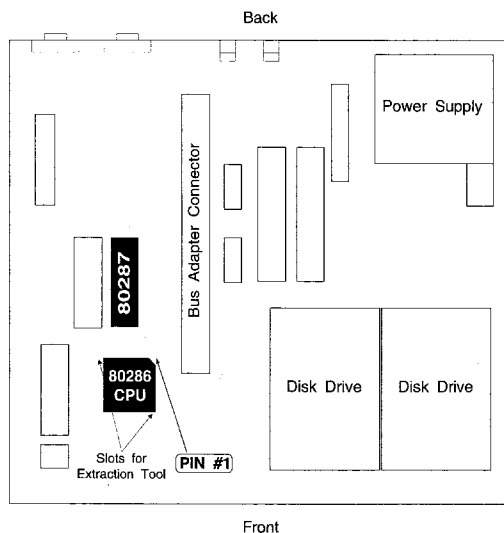

Figure 4. IBM PS/2 Model 30-286 System Board
**Note:** The position of pin 1 on the 80286 processor chip will determine **exactly** how the 486SLC2 Cached Processor Upgrade Card will be installed. The location of pin 1 shown in figure 4 is correct for the motherboards we have worked with in developing the card. It is possible that alternative motherboard designs or engineering levels exist and the location of pin 1 on your motherboard is definitive.
10. Insert the metal prongs of the IC chip removal tool in the space between the processor and its socket. Insert the prongs in the slots located diagonally opposite each other and 90 degrees either side of pin 1 (see figure 4). Gently squeeze the plastic handles until the tip near the metal prongs seats on the processor socket. Without rocking or lifting up on the tool, gently increase the force on the handles until the prongs lift the processor out of the socket. (Save the 80286 microprocessor in the event you need to temporarily
11. If you have an 80287 math co-processor installed, it **MUST** be removed. This device is incompatible with the processor on your new upgrade card. Locate the 80287 co-processor as shown in figure 4 and insert a small flat blade screwdriver under the end of the chip. Gently pry upwards; repeat for both ends. Once the pins have been sufficiently exposed, remove the co-processor with your fingers. (Save the 80287 co-processor in the event you need to temporarily return to the old configuration. The math co-processor should also be stored in the antistatic bag.)